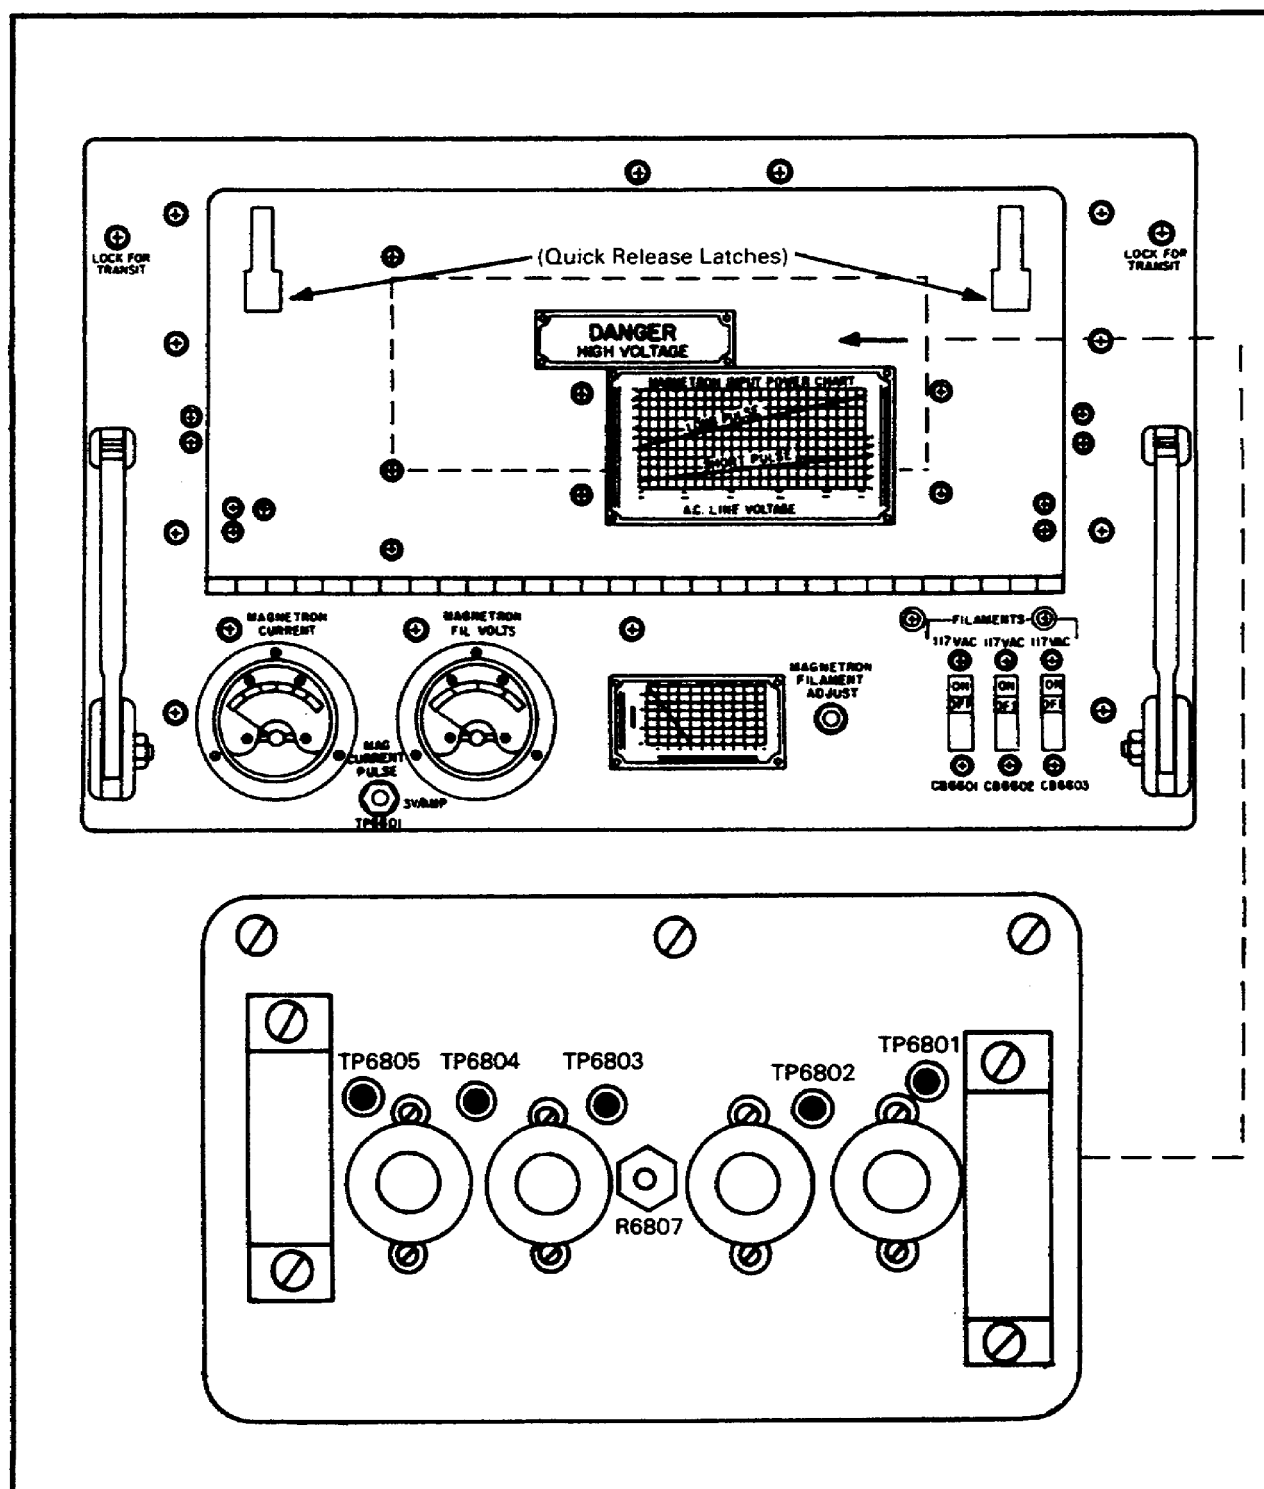

Figure 47. Transmitter, radar T-749A/FPN-40 and pulse delay oscillator.
e. Locate the pulse delay oscillator mounted on the inside of the panel cover of transmitter radar T-749A/FPN-40. (See Figure 47.)
- _____ Pulse delay oscillator assembly O-1284/FPN (Figure 47)